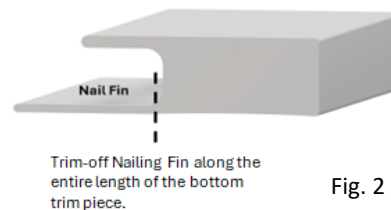

Fig. 2
1. To aid in ease of installation, trim the nailing fin off the bottom piece (Fig 2).